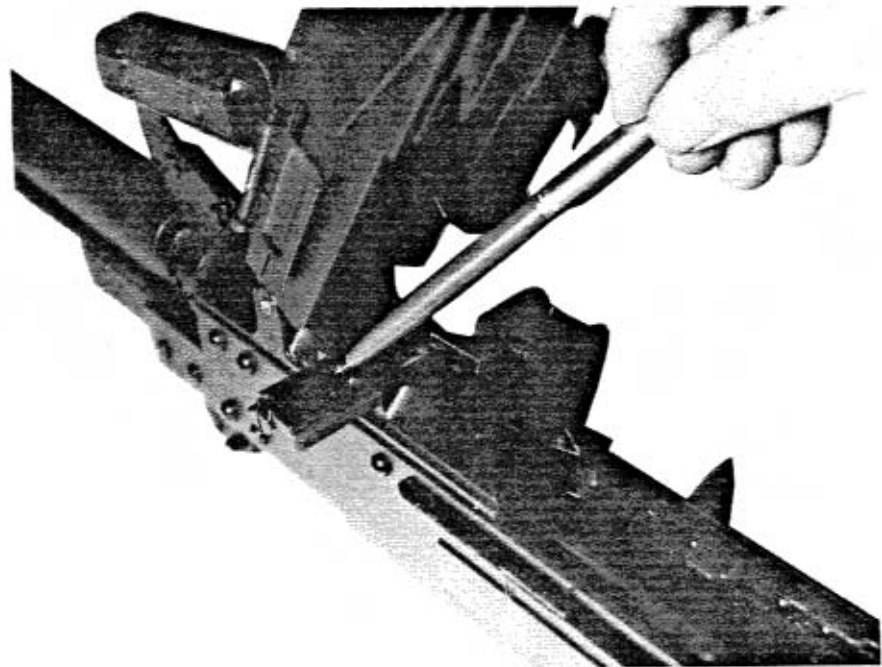
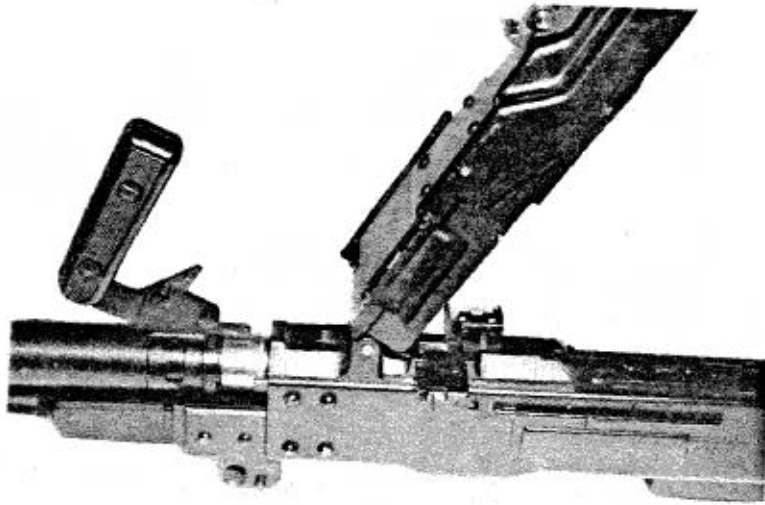
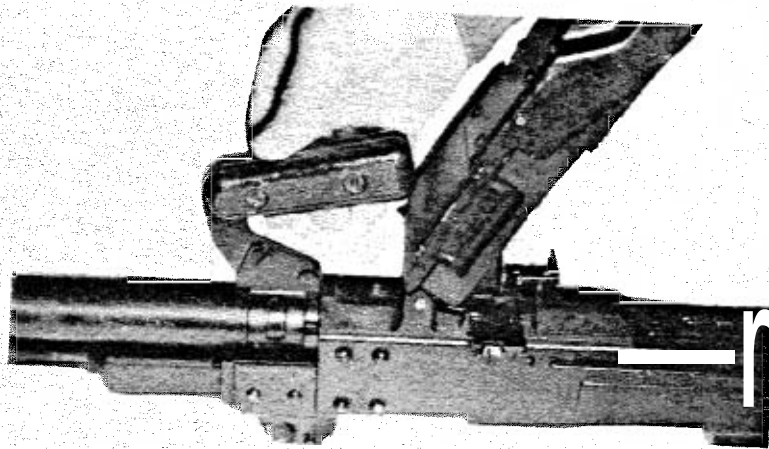

FIG. A-13 BARREL LATCH
FIG. A-14. BARREL BEING FITTED INTO RECEIVER GROUP
FIG. A-15. BARREL IN POSITION
a. Open the receiver cover, lift the feed block base and move the barrel latch to the left as far as it will go (Fig. A-13). Fit the barrel into the receiver (Fig. A-14), align the chamber sleeve with the gas piston tube and pull the barrel rearward (Fig. A-15). Secure the barrel by moving the barrel latch to the right and turning the carrying handle to the left.